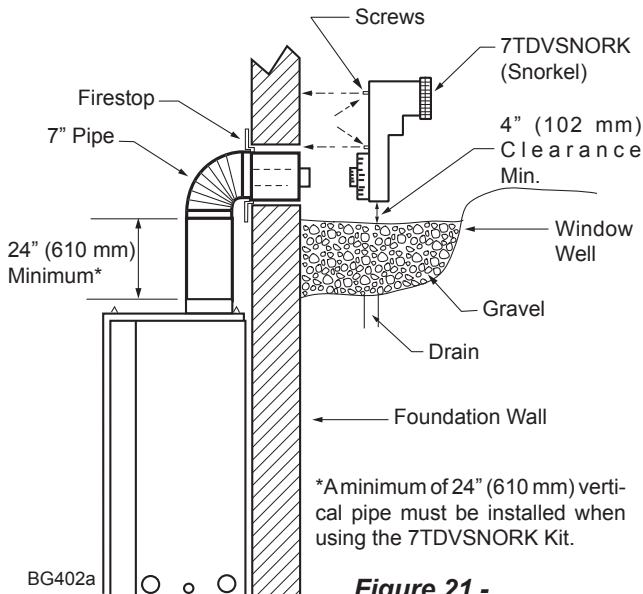

Figure 21 - Below Grade Installation
2. Remove soil to a depth of approximately 16" (406 mm) below base of snorkel. Install drain pipe. Install window well (not supplied). Refill hole with 12" (305 mm) of coarse gravel leaving a clearance of approximately 4" (102 mm) below snorkel. *Figure 21*
7. Level the soil so as to maintain a 4" (102 mm) clearance below snorkel. *Figure 21*